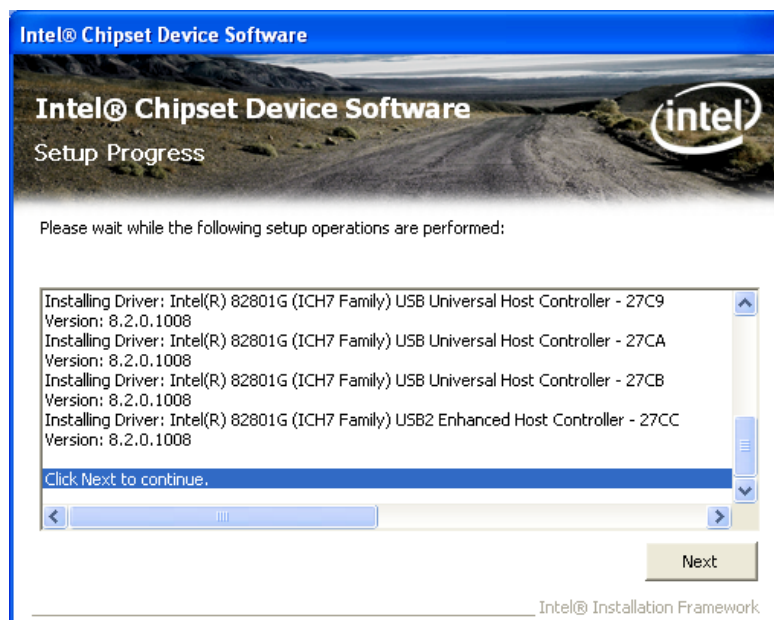

Figure 6-6: Chipset Driver Setup Operations
Step 12: **Setup Operations** are performed as shown in Figure 6-6.